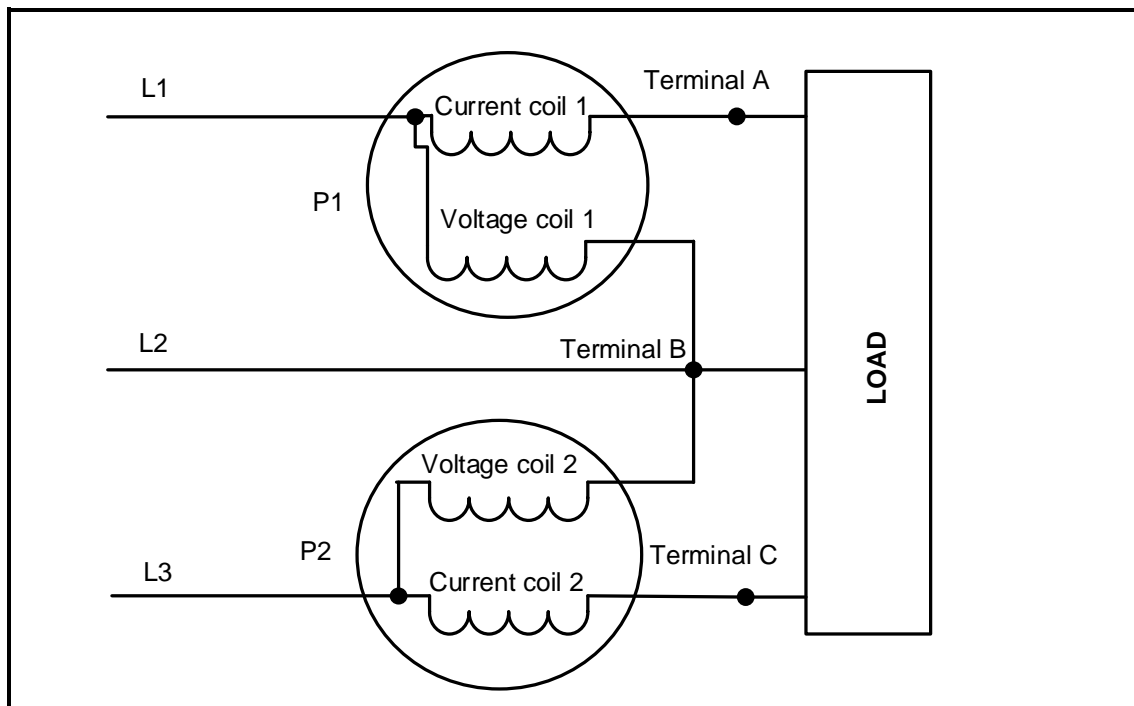

FIGURE 3.7
3.7 Refer to FIGURE 3.7 below and answer the questions that follow.
3.7.1 Identify the method used in FIGURE 3.7 to measure the power to the load. (1)